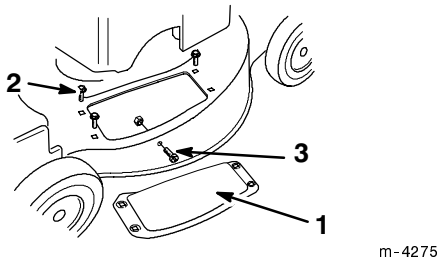

Figure 35
4. Remove and save the three bolts that secure the discharge cover to the lawn mower (Fig. 35).
- Remove and save the screw and nut from side of the lawn mower (Fig. 35).